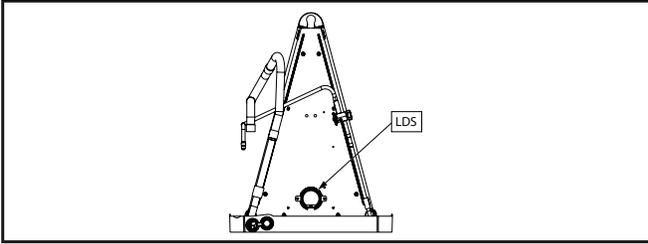

Figure 1. A2L Sensor location for C85 coils in vertical configuration.
- All C85 coils have a factory installed leak detection sensor (LDS) on the front delta plate of the coil as shown in figure 1. This location of the LDS is valid for upflow and downflow applications.